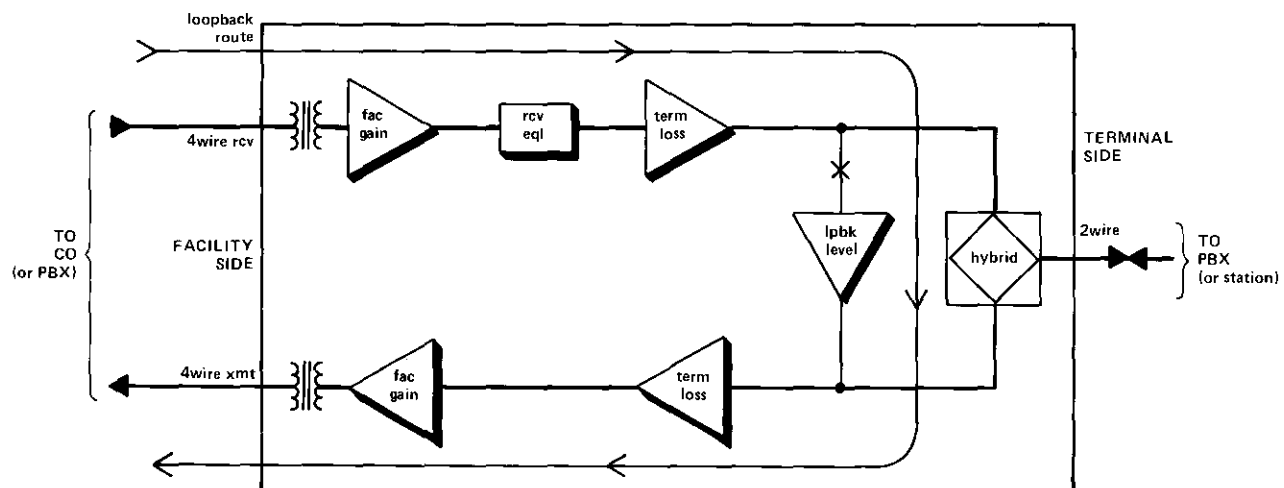

figure 8. Loopback route through 6122A
2.28 Integral facility-side (4wire-side) loopback circuitry in the 6122A allows signals at the 4wire receive port to be looped back to the 4wire transmit port for testing of both the module and the facility. Figure 8 shows the loopback path through the module. Prescription loopback-level-control circuitry introduces from 0 to 23dB of gain or loss into the loopback path in switch-selectable increments (23dB loss; 0.5, 1.5, 3, 6, and 12dB gain) to provide true equal-level loopback. A switch option buses out the terminal equipment during loopback, if desired, to prevent inadvertent seizure of the trunk circuit or line circuit. **This option can only be used, however, with A-side signaling and Type I E&M interface.** In such applications, the option buses out the terminal equipment by grounding the E lead.